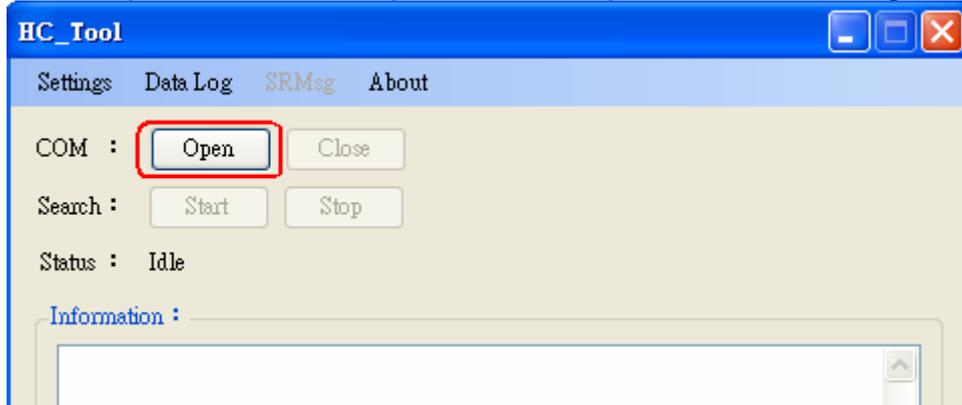

Figure 3-4: Click the “Open” button
Step4: Click “Open” button to open the com port of PC like Figure 3-4.